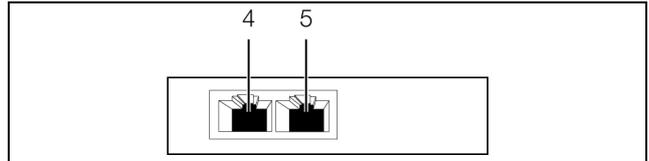

Fig. 8: Rear of the differential pressure sensor
- Use a CAN bus connection cable to connect the differential pressure sensor to a CAN bus interface on the CMC III Processing Unit or the neighbouring component on the CAN bus (fig. 8, item 4).
- If necessary, connect another component (e.g. another sensor type) to the second, free CAN bus interface of the differential pressure sensor (fig. 8, item 5).